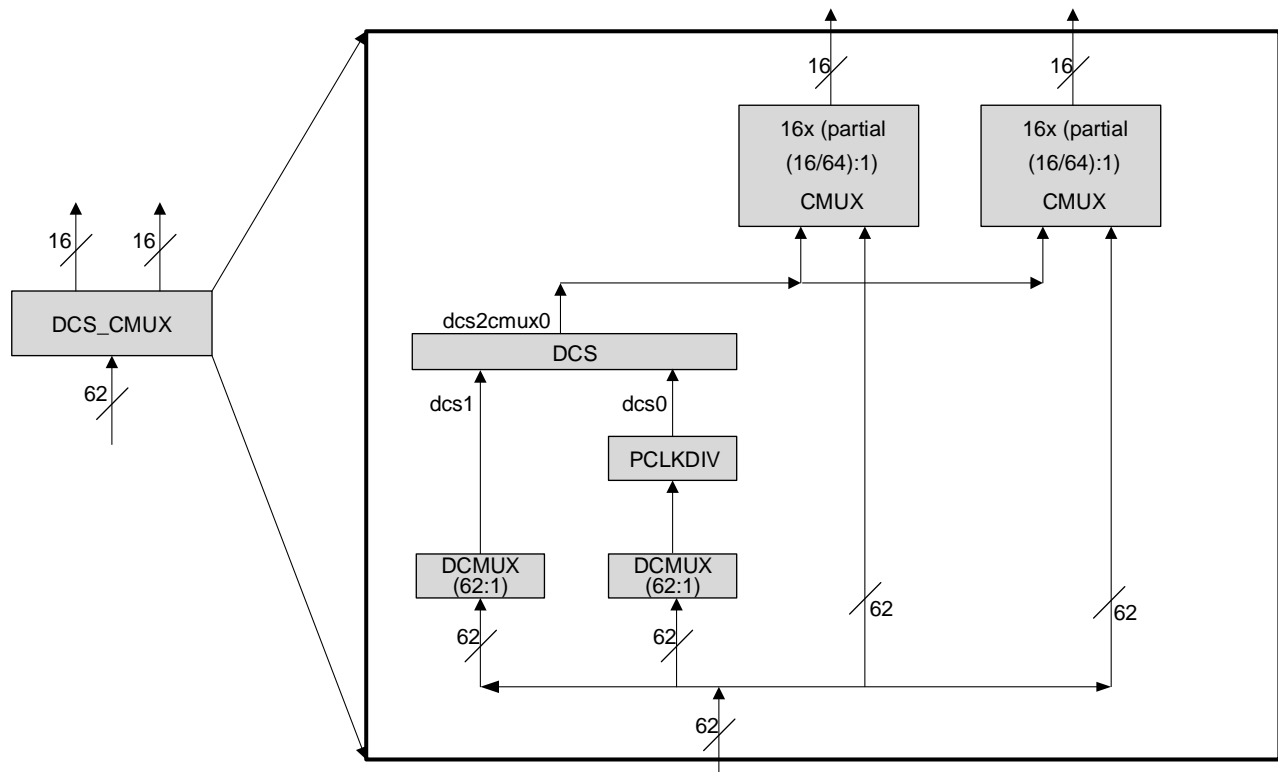

Figure 2.9. DCS\_CMUX Diagram
The PCLKDIV supports  $\div 2$ ,  $\div 4$ ,  $\div 8$ ,  $\div 16$ ,  $\div 32$ ,  $\div 64$ ,  $\div 128$ , and  $\div 1$  (bypass) operation. The PCLKDIV is fed from a DCSMUX within the DCS\_CMUX block. The clock divider output drives one input of the DCS Dynamic Clock Select within the DSC\_CMUX block. The Reset (RST) control signal is asynchronous and forces all outputs to low. The divider output starts at next cycle after the reset is synchronously released. The PCLKDIV is shown in context in Figure 2.9.
All clock sources are selected and combined for primary clock routing through the Dynamic Clock Selector Center Multiplexer logic (DCS\_CMUX). There are one (1) or two (2) DCS\_CMUX blocks per device. Each DCS\_CMUX block contains two DCSMUX blocks, one PCLKDIV, one DCS block, and 1 or 2 CMUX blocks. See Figure 2.9 for a representative DCS\_CMUX block diagram.